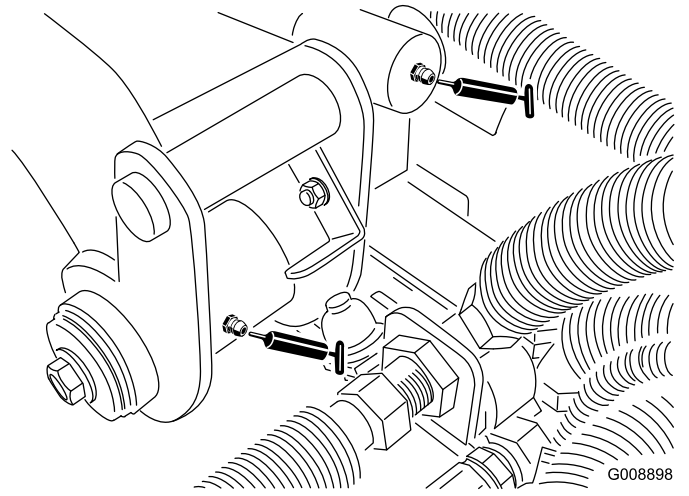

Figure 54
- Rear lift arm pivot and lift cylinder (2) (Figure 54)